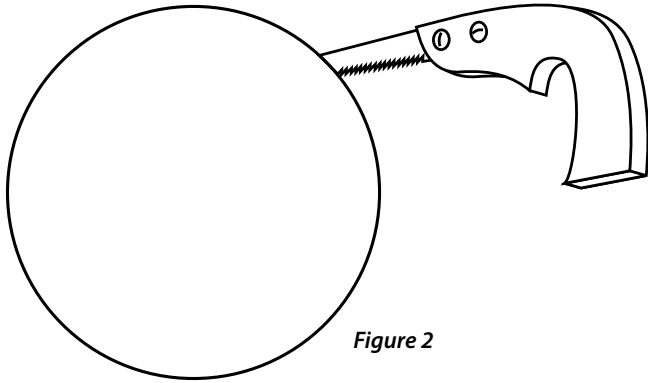

Figure 2
2. Cut out the circular opening with a small drywall saw. Cut inside the pencil line. Take care not to damage the edge of the drywall since you will be installing drywall anchors close to the hole to mount the grille. (Figure 2)